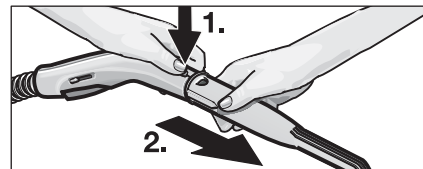

Figure 2: Detaching the accessory parts
- To detach the accessory parts, press the unlocking button (B3 or F2), and pull the items apart (see Figure 2).